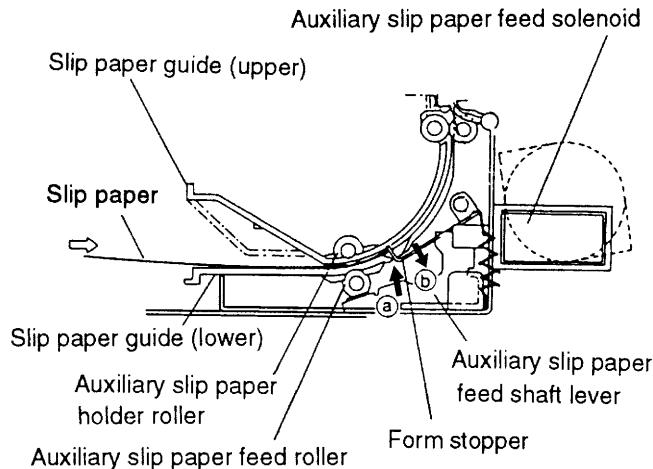

Figure 2-21. Slip Paper Positioning (1)
A form stopper placed at a right angle in the slip paper path blocks the path due to the action of the form stopper spring (Figure 2-21).
When the slip paper is inserted along the slip paper guide (lower) in the \Rightarrow direction, the paper can enter as far as the stopper (Figure 2-21).
Next, the J/S switching solenoid is powered while rotating the journal paper feed motor several steps in the forward and backward directions. The J/S change lever now causes the J/S switching gear, which has been positioned to feed the journal paper up to this point, to move to a position to feed the slip paper. The auxiliary slip paper feed solenoid is then powered, causing the auxiliary slip paper feed shaft lever linked to the ferrite core to move in the \Rightarrow ① direction. The roller of the auxiliary slip paper feed roller is pushed up against the auxiliary slip paper holder roller. The auxiliary slip paper feed shaft lever moves the form stopper in the \Rightarrow ② direction, thus opening the slip paper path and completing the preparations for slip paper feeding (Figure 2-21).